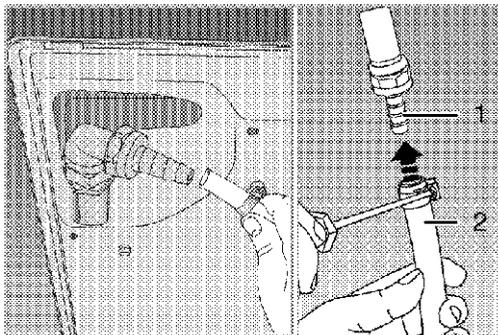

Figure 4
- ❖ Connect the clamp to the hose. Then connect the hose to oven. Finally, tighten the clamp with a screwdriver. (See Figure 4)